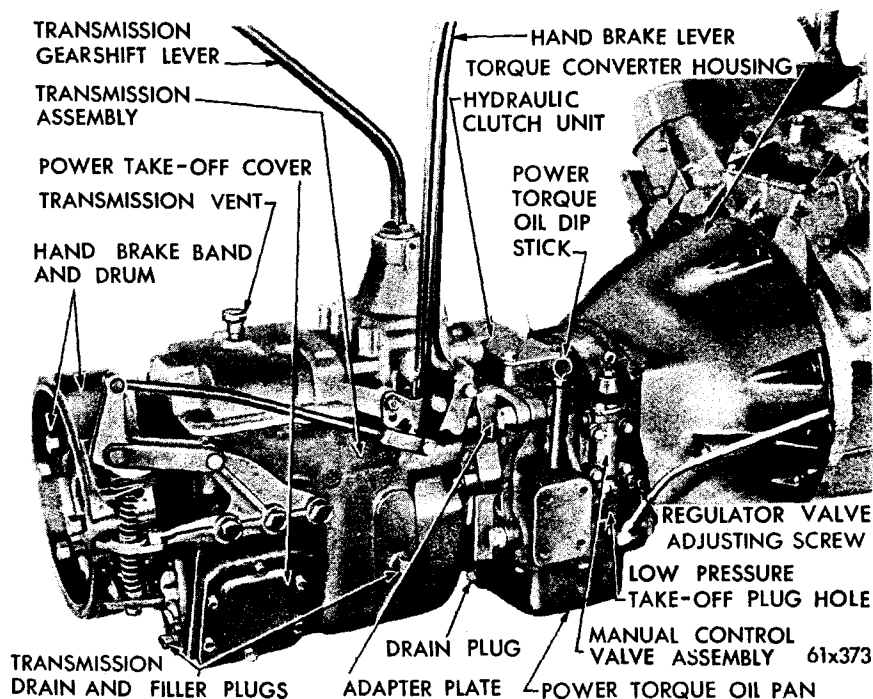

Figure 26 — Transmission Adaptation with Power Torque (Typical)
- (3) Several transmission adaptations (Fig. 26) covering tower and remote mounted manual transmissions.